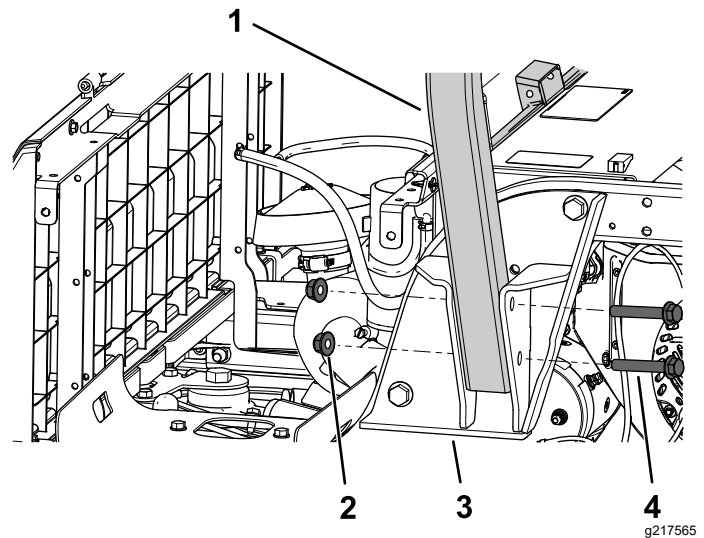

Figure 26
1. Secure 1 side of the roll bar to a ROPS bracket using 2 flange-head bolts (1/2 x 3-1/2 inches) and 2 locknuts (1/2 inch) as shown in Figure 26.